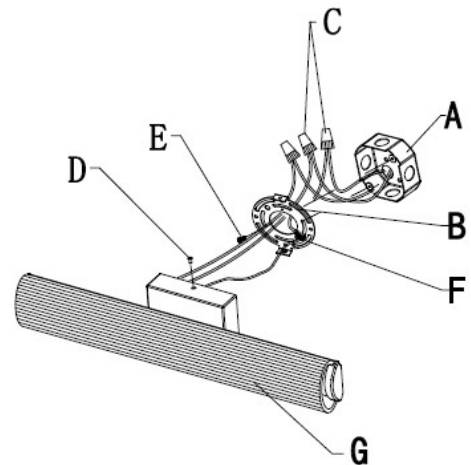

Fig. 2
CONNECTION THE WIRES (Fig. 2)
4. Connect the electrical wires as shown in Fig. 2, making sure that all wire connectors are secured. If your junction box (A) has a ground wire (green or bare copper), connect the fixture's ground wire to it. Otherwise, connect the fixture's ground wire directly to mounting plate (B) using ground screw (F) provided.
5. Tuck wire connections neatly inside the junction box (A).